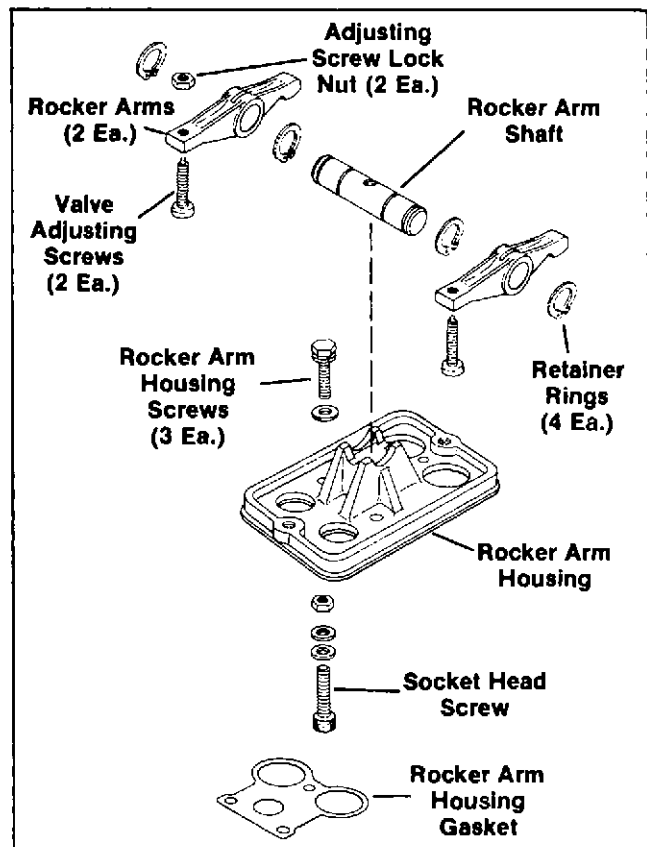

Figure 8-15. Rocker Arm Assembly
2. Screw valve adjusting screws into ends of rocker arms and secure with locknuts (see Figure 8-15).
the smaller of the four large holes in the housing. Fasten the shaft to the housing with washers and socket head screw. Torque socket head screw to 180 in. lbs. (see Figure 8-15).
- Place rocker arm housing gasket over valve springs on cylinder head (always use new gasket when housing is serviced) and secure rocker arm housing to cylinder head with capscrews (see Figure 8-15).